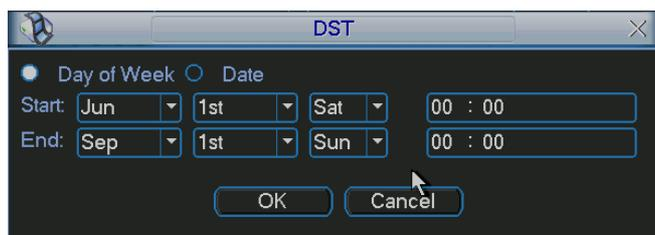
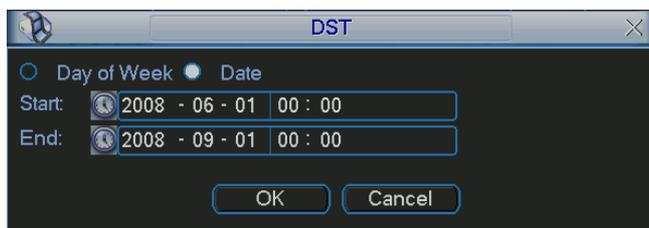

Figure 4-23
Figure 4-24
- DST: Here you can set DST time and date. Please enable DST function and then click set button. You can see an interface is shown as in Figure 4-23. Here you can set start time and end time by setting corresponding week setup. In Figure 4-23, enable date button, you can see an interface is shown as in Figure 4-24. Here you can set start time and end time by setting corresponding date setup.